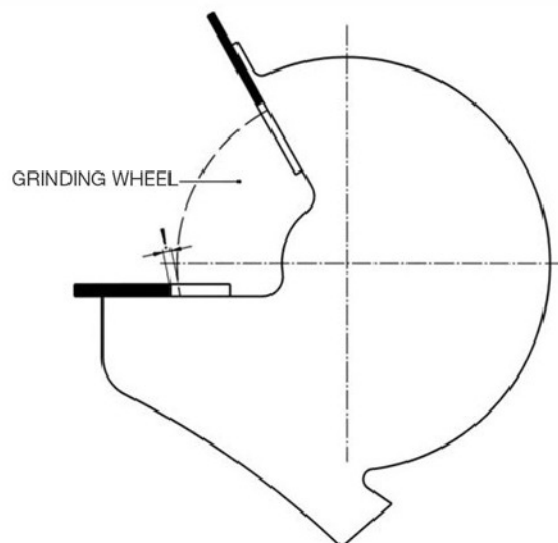

Fig. 12
- 7) Mount all the appropriate wheel guards. Adjust the dust extraction and coolant nozzle(s). Keep the work rest adjusted within 3 millimetres (1/8in.) of the wheel face, see **fig. 12**.